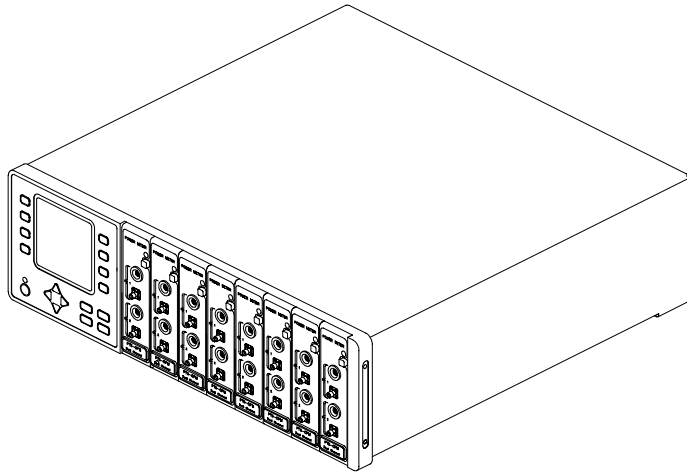

Figure 8 – Inserted Modules
4. When properly installed, the module will be flush with the front panel and other modules (see **Figure 8**).